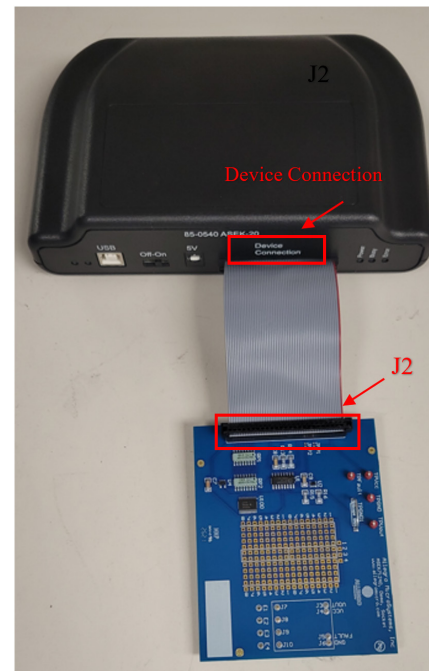

Figure 8: Connection between ASEK-20 and ASEK71240 Daughterboard
- Connect the other end of the ribbon cable to the “Device Connection” port on the ASEK-20 chassis as shown in Figure 8.